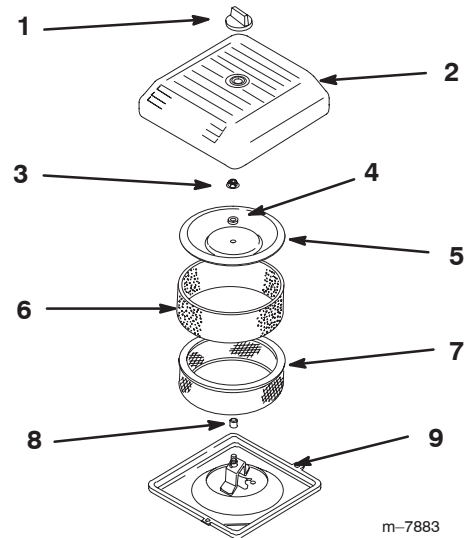

Figure 16
3. Unscrew the knob and remove the air cleaner cover (Fig. 16).
4. Carefully slide the foam pre-filter off of the paper element (Fig. 16).
5. Unscrew the cover nut and remove the cover, spacer and paper filter (Fig. 16).
- Carefully slide the foam pre-filter onto the paper filter (Fig. 16).
- Place the air cleaner assembly onto the air cleaner base (Fig. 16).
- Install the cover, spacer and secure it with the cover nut (Fig. 16). Torque the nut to 95 in-lb (11 N·m).
- Install the air cleaner cover and secure with the knob (Fig. 16).